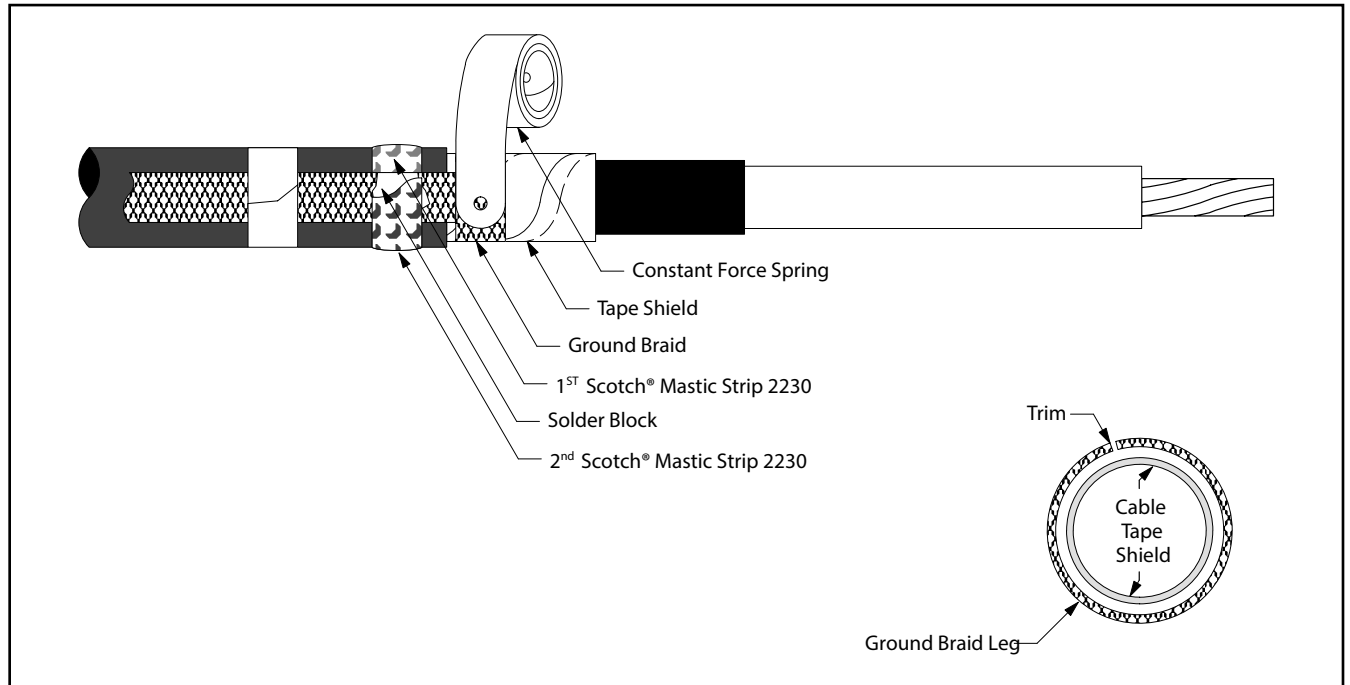

Figure 4
- 3.3 Wrap ground braid around cable tape shield one complete wrap, trim excess to prevent overlap and secure in place with constant force spring. Wrap spring in same direction as ground braid (*Figure 4*). Cinch (tighten) the spring after wrapping the final winding.
- 3.4 Select second Scotch® Mastic Strip 2230 from kit and remove white release liners. Apply a second **SINGLE WRAP** of mastic over solder block on ground braid and previously applied mastic (*Figure 4*). Cut off excess.